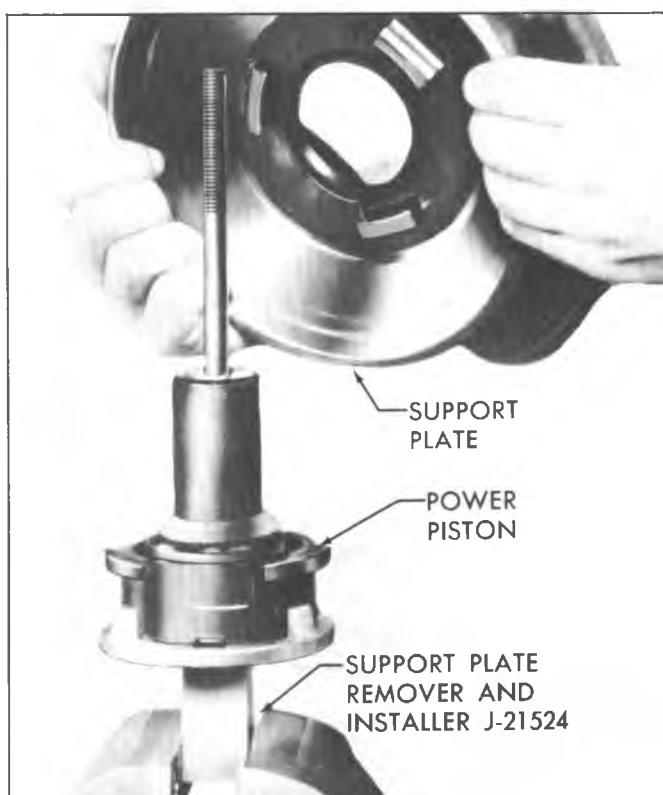

Fig. 5-10C--Removing Support Plate
7. Press down on support plate and rotate counterclockwise until support plate separates from power piston (fig. 5-10C).
15. Holding support plate by metal, with locking tangs down, place support plate and diaphragm assembly over tube of power piston. The flange of diaphragm will fit into groove on power piston (fig. 5-10C).
16. Press down and rotate support plate clockwise, until lugs on power piston come against stops on support plate (fig. 5-10C).